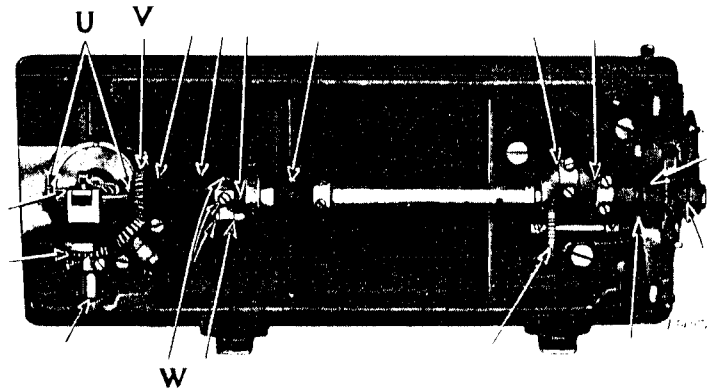

Fig. 12
To reach the parts underneath the bed of the machine, for oiling, turn the machine back on its hinges and apply oil at the places designated by unlettered arrows, as shown in Fig. 12, and all other places where there are parts in movable contact, then bring the machine forward into place.
Second - Tip the machine back and loosen the screws in hook driving shaft crank (W, Fig. 12) at the right of the hook so that the hook can be moved by turning hook driving bevel gear (V) with the fingers.
Fourth - With your fingers turn hook driving bevel gear (V, Fig. 12) in its regular direction until the point of the hook passes the needle about 1/4 inch, then carefully and slowly push the hook backwards until the point of the hook is at the center of the needle and 3/32 inch above its eye and securely fasten the screws (W) in the crank, provided neither the needle bar nor hook has moved since stationed as directed, as there must be no lost motion between the heel of the hook and the hook driver when the machine is correctly timed.
Remove the hook race cap spring screw and spring (U, Fig. 12) from each side of the hook bracket, then remove the hook race cap and hook.